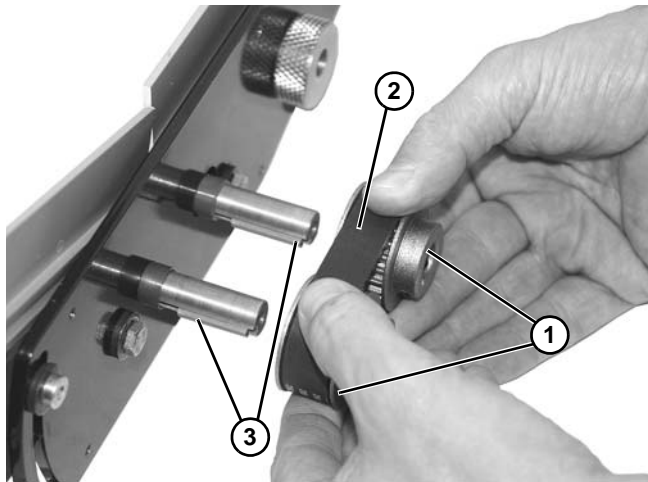

Figure 79
- Remove both pulleys (**Figure 79, item 1**) and belt (**Figure 79, item 2**).
- Be certain two keys (**Figure 79, item 3**) are installed onto each shaft.
- Install new belt (**Figure 79, item 2**) and both pulleys (**Figure 79, item 1**).